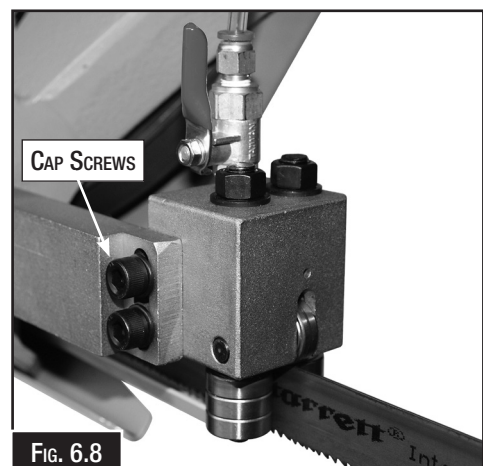

FIG. 6.8
4. Loosen the cap screws (Fig. 6.8) and adjust the blade guide housing so the back of the blade just touches the bearing, making sure the guide housing is not tilted.